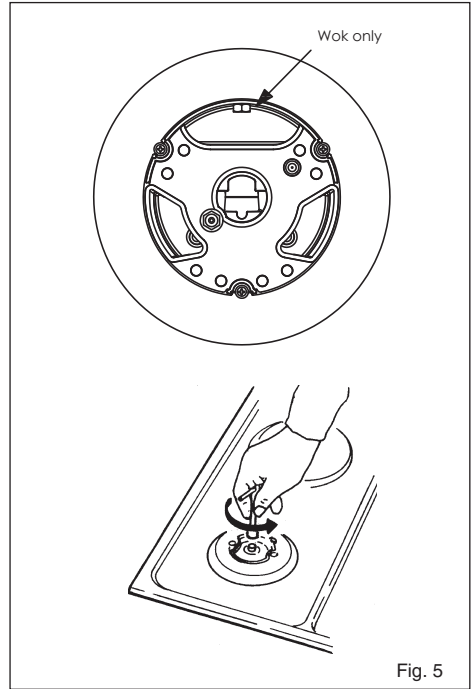

Fig. 5
## Adaptation to various types of gas (Fig. 5)
- replace the injector (Fig. 5) with the corresponding type of gas to be used (see table "User characteristics");